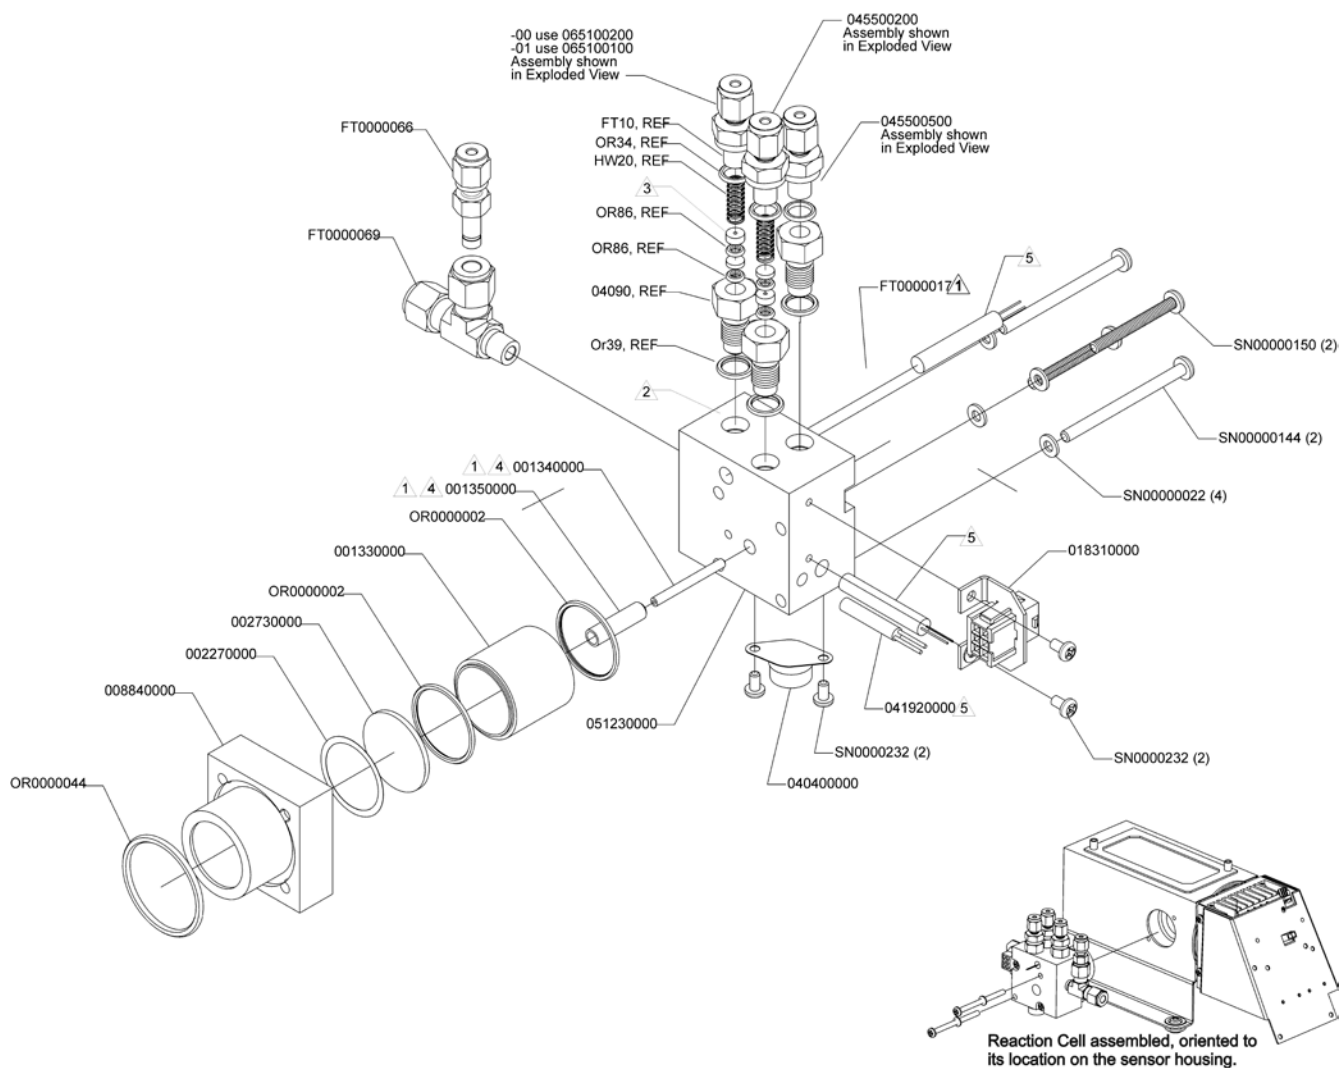
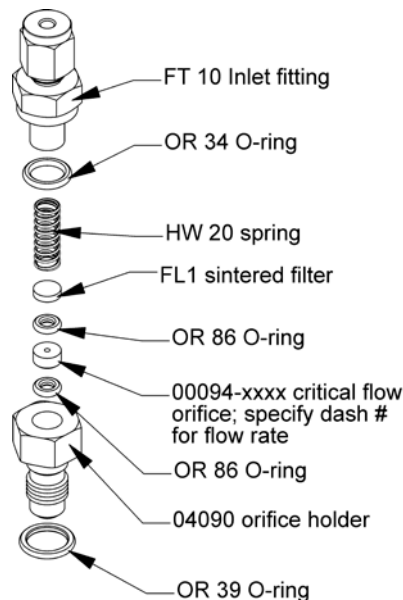

Figure 6-4: Reaction Cell Assembly
Figure 6-5: Critical Flow Orifice Assembly
1. Turn off the instrument power and vacuum pump. Refer to Figure 6-4 for the following procedure.
3. Remove four screws holding the reaction cell to the PMT housing and lift the cell and manifold out as shown in the inset of Figure 6-4.
There are several critical flow orifices installed in the T200H/M, Figure 6-4 shows one of the two most important orifice assemblies, located on the reaction cell. Refer to Section 8.3.3 for a detailed description on functionality and locations. Despite the fact that these flow restrictors are protected by sintered stainless steel filters, they can, on occasion, clog up, particularly if the instrument is operated without sample filter or in an environment with very fine, sub-micron particle-size dust. It is recommended to keep spare orifice holder assemblies at hand to minimize downtime and swap orifices in a matter of a few minutes. Appendix B lists several complete spare part kits for this purpose.
1. Turn off power to the instrument and vacuum pump. Remove the analyzer cover and locate the reaction cell (see Figure 3-7 for location in chassis, and Figure 6-4 for exploded view of assembly).
3. For orifices on the reaction cell (Figure 6-4): Unscrew the orifice holder with a 9/16" wrench. This part holds all components of the critical flow assembly as shown in Figure 6-5. Appendix B contains a list of spare part numbers.
4. For orifices in the vacuum manifold: the assembly is similar to the one shown in Figure 6-5, but without the orifice holder, part number 04090, and bottom O-ring OR34 and with an NPT fitting in place of the FT 10 fitting. After taking off the connecting tube, unscrew the NPT fitting.
7. Re-assemble the flow control assembly with new the parts (see Appendix B for part number or replacement kit) as shown in Figure 6-5 and re-connect them to the reaction cell manifold or the vacuum manifold.